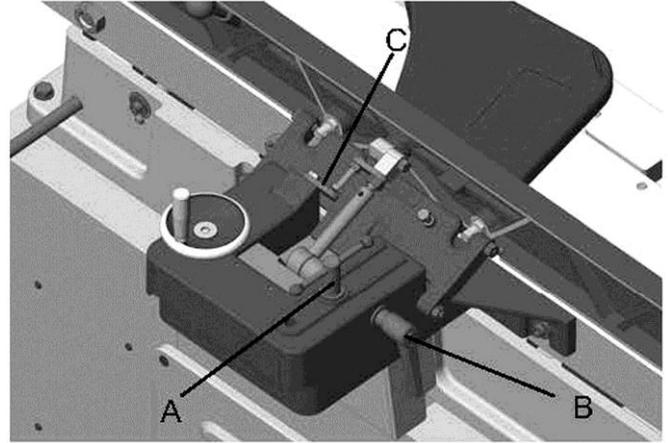

Fig. 15
Fence adjustments are made with the lock handles shown in (Fig. 15). To slide the fence forward or back on the table, loosen lock handle (A), slide the fence to the desired position and tighten handle (A) to secure fence.
1. Loosen locking bolt (B), (Fig.15).
2. Place a machinist protractor or triangle on the table and against the fence. Adjust the fence to the desired angle and tighten locking bolt (B) to secure the fence.
Note: The handle (A), (Fig.15) can be adjusted to a more convenient position by loosening the nuts on its opposite end, turning the handle to the proper position, and retightening the nuts.
1. Loosen locking bolt (B), Fig.15.
2. Flip back the stop block (C).
3. Adjust the fence to the desired angle and tighten locking bolt (B) to secure fence.